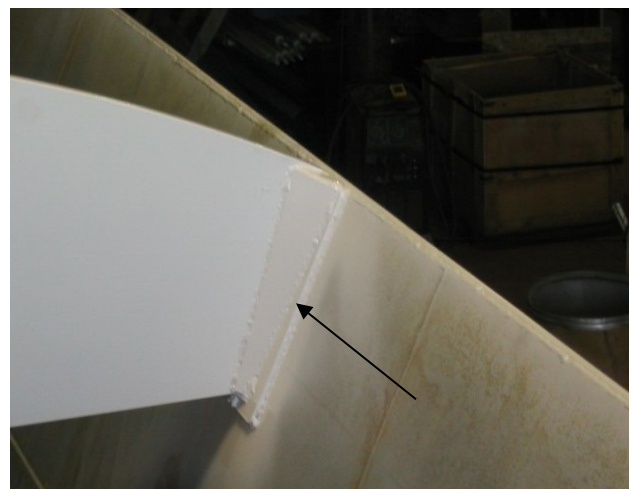

Figure 4.2
5. For the 1" center bow weld the long gusset (black arrow) and top to the trailer and center bow. Refer to **Figure 4.2**.